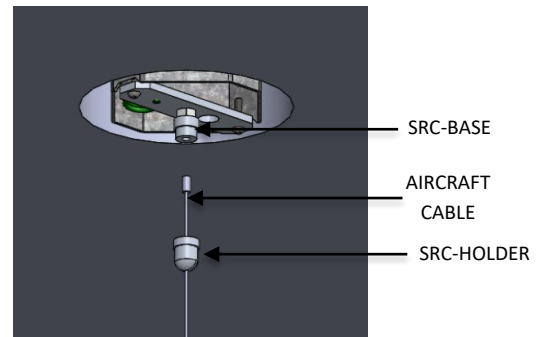

FIG. 21 – AIRCRAFT CABLE
4. Feed the AIRCRAFT CABLE through the SRC-HOLDER and assemble the SRC-HOLDER to SRC-BASE as shown below in FIG. 21.